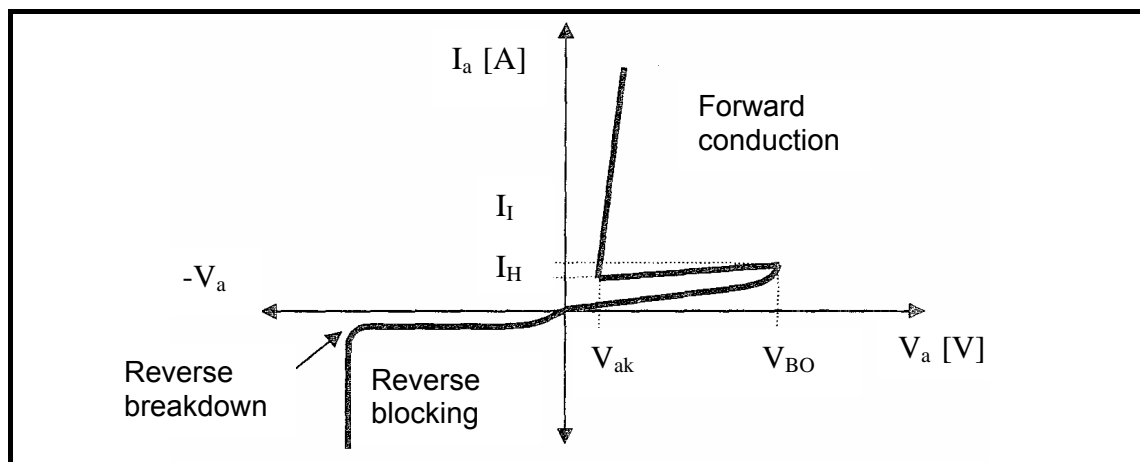

FIGURE 6.1: CHARACTERISTIC CURVE OF AN SCR
6.1 The diagram in FIGURE 6.1 below shows the characteristic curve of an SCR.